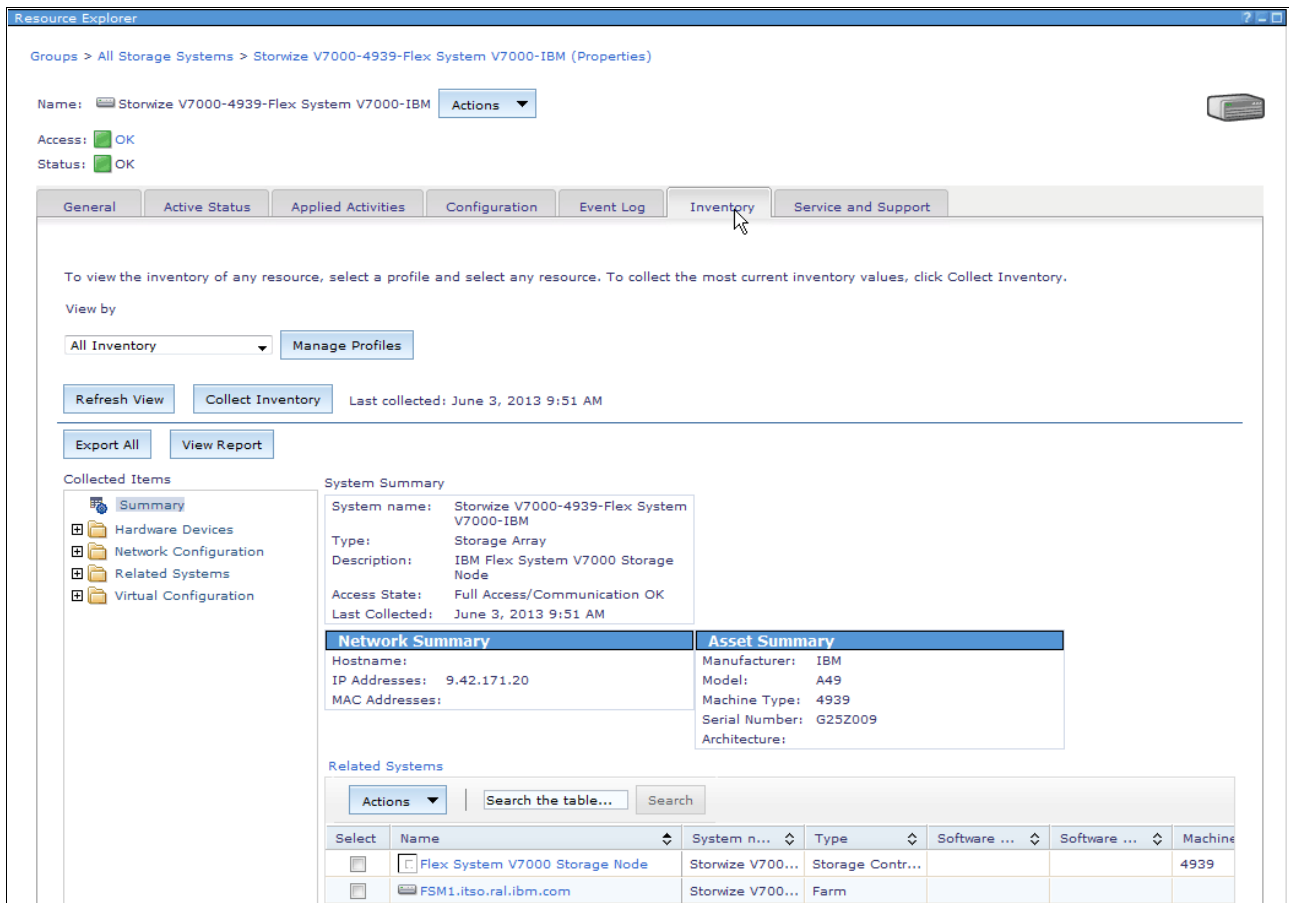

Figure 3-94 Inventory of Storage
5. Select the tab Inventory to collect the inventory, as shown in Figure 3-94.